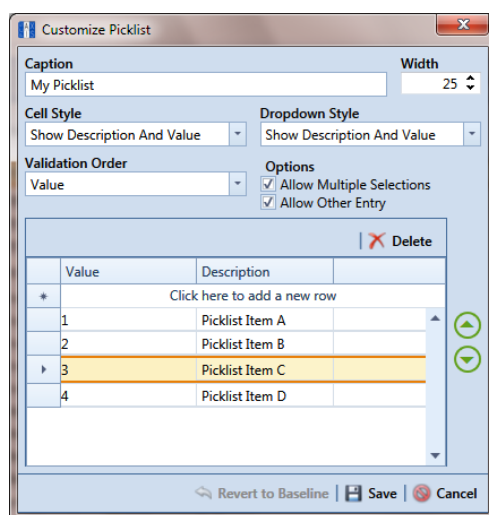

Figure 2-33. Customize Picklist
- 4 Click  **Picklist** in the toolbar to open the *Customize Picklist* dialog box (Figure 2-33).
- a** Click the message *Click here to add new row* to add an empty row of fields for data entry (Figure 2-33, page 64).